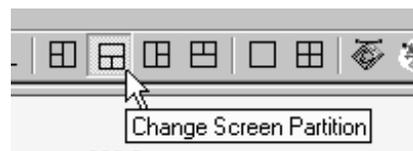

Figure 7. Bigger “stick” spectrum.
- If you wish you can increase the “histogram” spectrum plot size by clicking on the window arrangement icon shown in Figure 7. Then print the new windows.